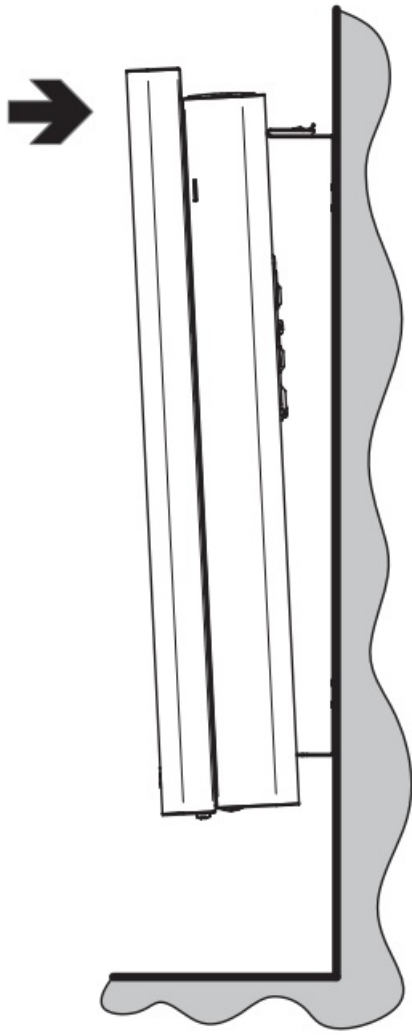

FIG. 5
3. Push the unit to secure it. (FIG. 5)